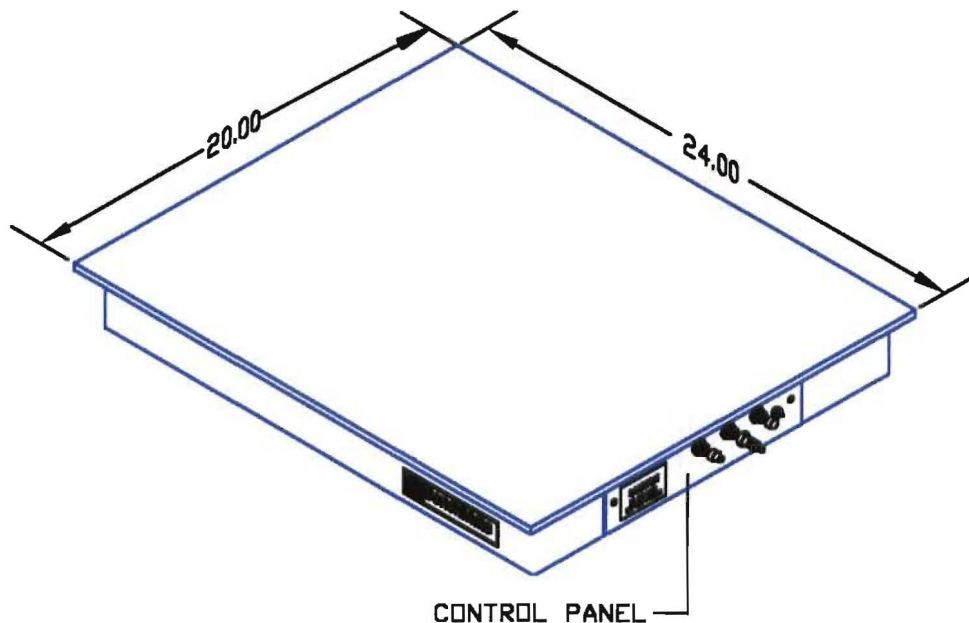

Fig. 1 Outline View of 2212 VIBRAPLANE Platform.
1. Refer to Fig. 1 for an outline view of your VIBRAPLANE Model 2212 Platform.